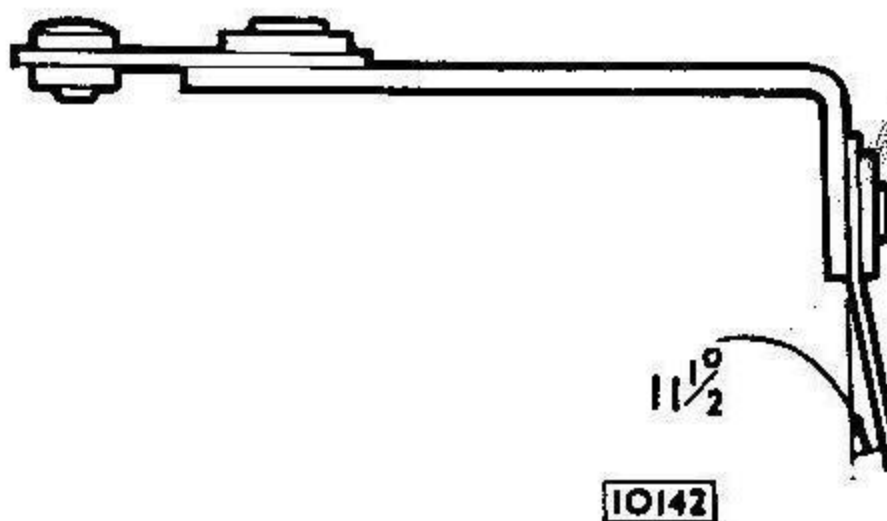

Fig. 31 Adjustment of back spring angle
For initial setting an angle of 11.5° as shown in Fig.31 will provide a setting of approximately the correct order. Replace the armature (3), packing pieces (4) and fixing